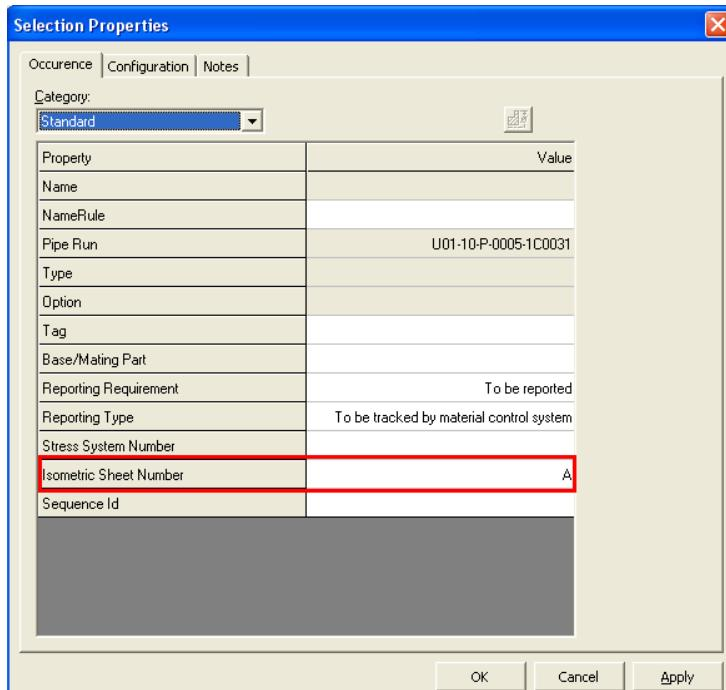

Figure 15.29: Selected Pipe Parts Properties
22. Right-click the selected parts and open the properties dialog box to assign the selected piping parts to an isometric sheet number A for creating an isometric drawing. Key in A in the **Isometric Sheet Number** box in the **Selection Properties** dialog box, as shown in Figure 15.29, and click **OK**.